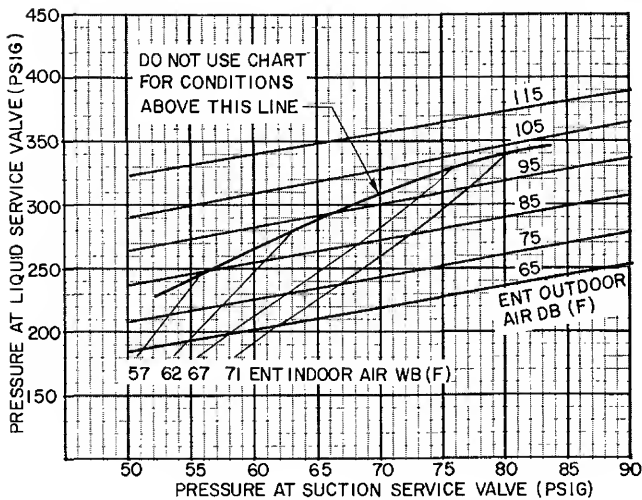

Fig. 18 – 38GC103310, 320; 38GF103310, 320/28GC or 40GC003 Charging Chart
*Use Charging Charts, Fig. 18 or 20 for 38GC103310,320, 38GF103310,320/28GC, 40GC systems.